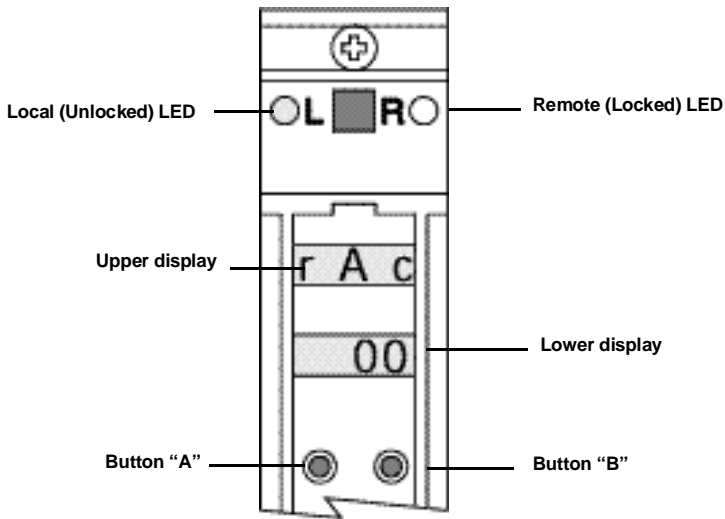

Figure 5-7. Control module in chassis address menu.
1. Press both the “A” and “B” buttons simultaneously to enter configuration mode. The upper display will read “rAc,” as shown in Figure 5-7.